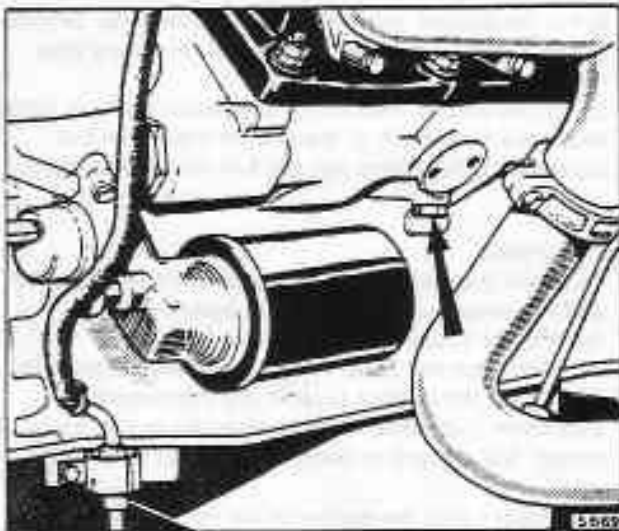

Fig. L5-3 Crankcase coolant drain plug
10. To complete the exercise, unscrew the drain plug situated on both sides of the crankcase (see fig. L5-3).
8. Unscrew and remove the drain plug from each bank of engine cylinders (see fig. L5-3).